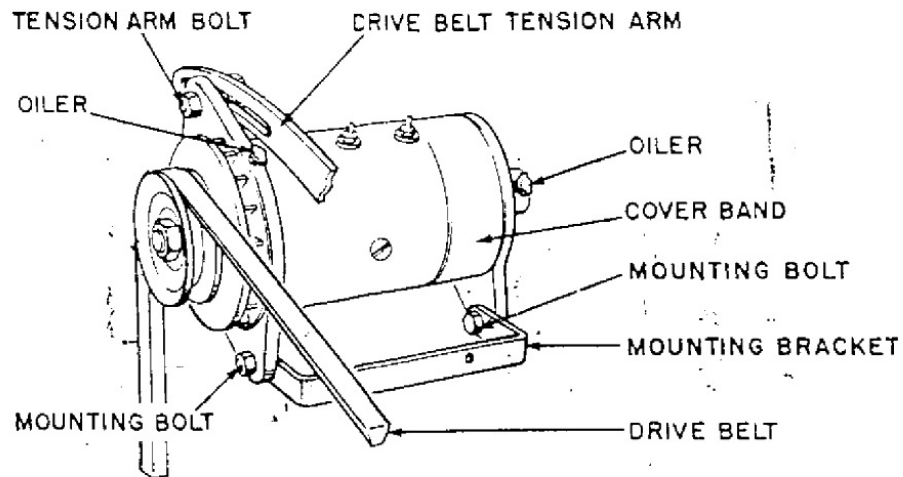

FIG. 1
3. Loosen Mounting Bolts and Tension Arm Bolt. Remove Drive Bolt (Fig. 1).